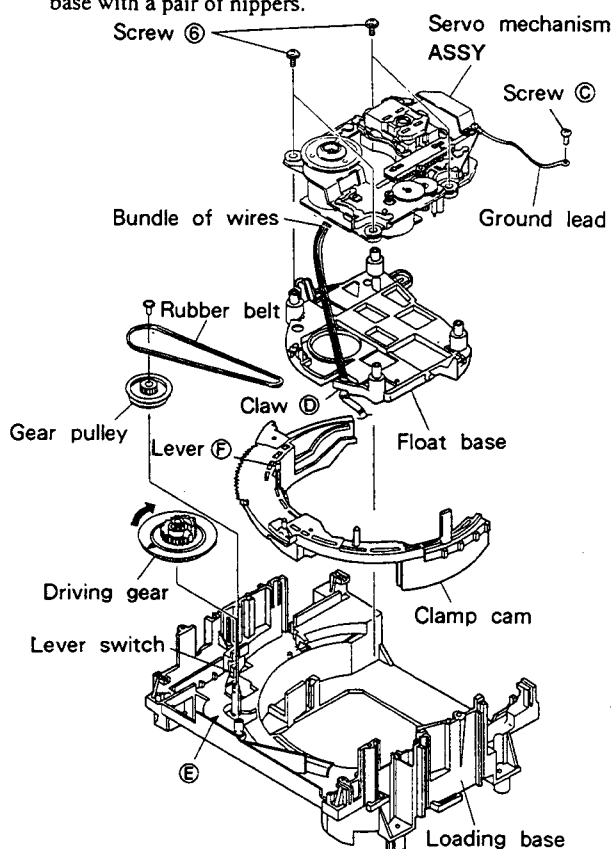

Fig. 2.
3. REMOVING THE FLOAT BASE (See Fig. 2.)
- ① Remove the servo mechanism assembly. (See 2.)
- ② Rotate the driving gear in the clockwise direction fully. The clamp cam will rotate in the counterclockwise direction, and the float base will rise.
- ③ After removing the bundle of wires from claw ① of the float base, remove the float base.